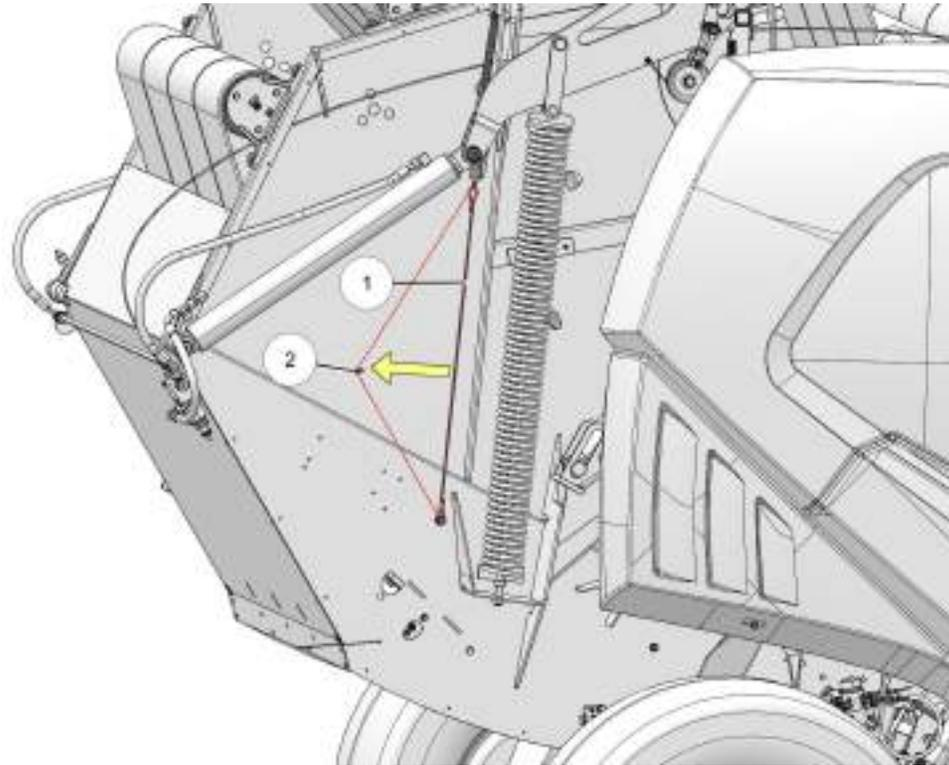

Figure 77. Rocker arm
2. Pull the wire (1) (see Figure 77 on page 11-24) behind the hook (2) to lock the rocker arm.